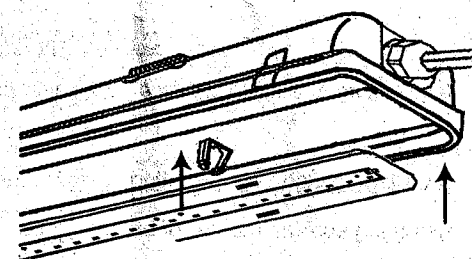

Figure 10
13. Position metal cover onto fixture opening. Make sure wires are not pinched between plastic housing and metal cover. Lift the metal cover, let the catchers through the slots, and lock. See Fig. 10